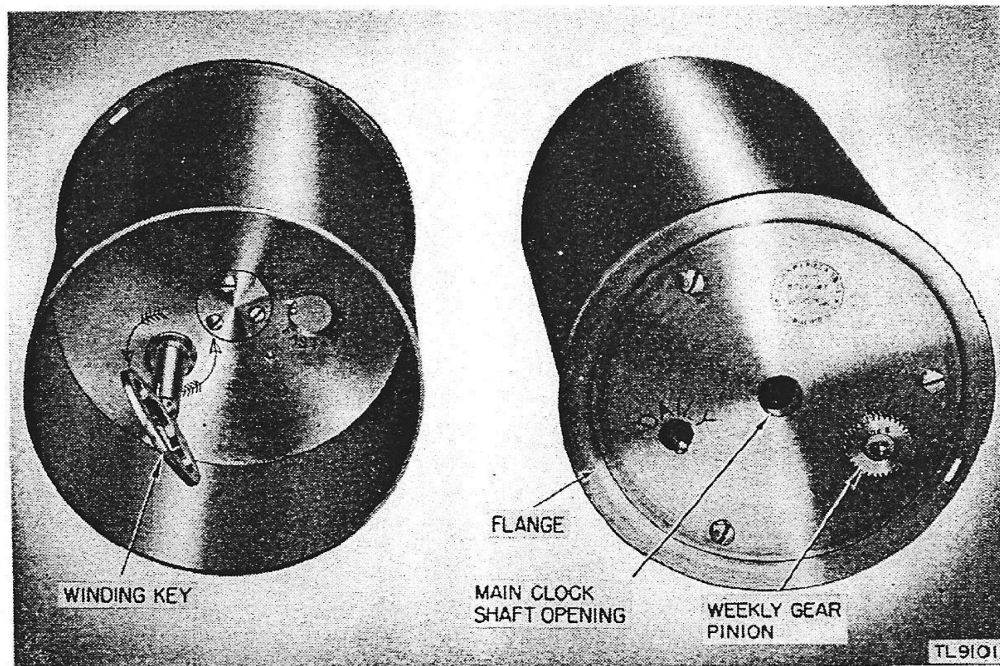
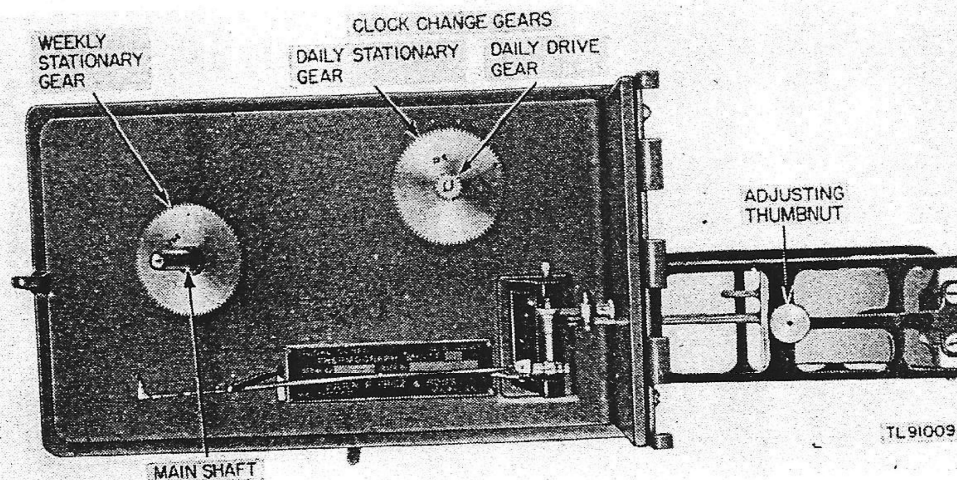

Figure 3. Clock ML-79-A, top and bottom views.
Figure 4. Thermograph ML-77—top interior view, showing clock spindle and indicating mechanism
a. **Clock ML-79-A (fig. 3).** Clock ML-79-A is a jeweled clock which is contained within a brass cylinder. The clock operates 8 days on one winding and makes one revolution weekly or daily, depending upon the particular set of gears in use. There is an opening for the main clock shaft through the center of the clock unit. The shafts for the weekly and
(1) *Gears.* Two sets of gears, a weekly set and a daily set, are provided. The weekly set is marked 176E, and completely rotates the cylinder once in 176 hours. The large weekly stationary gear is mounted on the main clock shaft (fig. 4). The small weekly drive gear is fastened on the clock shaft labeled WEEKLY (fig. 3). The set of daily gears is kept under the clock change-gear cover. This set is marked 29E, and completely rotates the cylinder once in 29 hours. The daily gears are not normally used.
8. WINDING CLOCKS ML-79-A AND ML-279. Wind the clock before replacing the cylinder on the shaft. Use the winding key located inside the top of the cylinder (fig. 3).
- g. Remove the pin which holds the small gear on the clock shaft marked WEEKLY, and then pull the gear from the shaft (fig. 3). Install the smaller of the spare change gears on the clock shaft labeled DAILY. *Be sure to replace the pin and washer.*